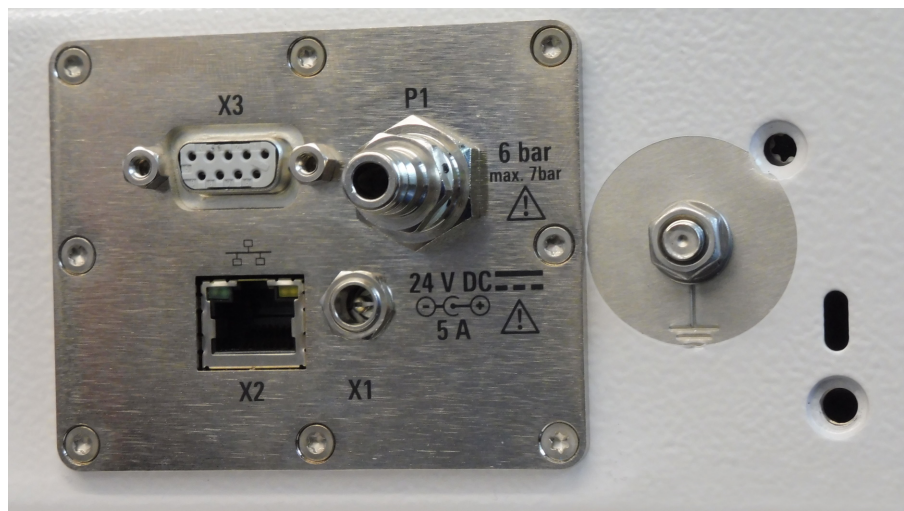

Figure 6-6: Supply and control panel
The quick-coupling plug [P1] (see Figure 6-6) is delivered with an additional push-pull adapter to 6 mm diameter flexible tubing.
1. For remote control via a **serial port**, connect an RS-232 cable from your control system to the D-Sub 9 connector (see [X3] in Figure 6-6).
2. For remote control via **Ethernet**, connect a LAN cable from your control system to the RJ45 connector (see [X2] in Figure 6-6).